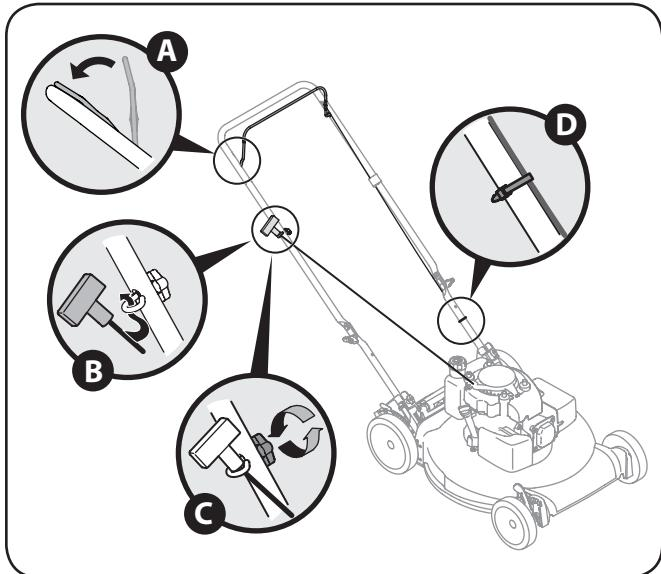

Figure 3-6
4. The rope guide is attached to the right side of the upper handle. Loosen the wing knob which secures the rope guide. See Fig. 3-6.
- Slowly pull starter rope handle from engine and slip starter rope into the rope guide. See Fig. 3-6.